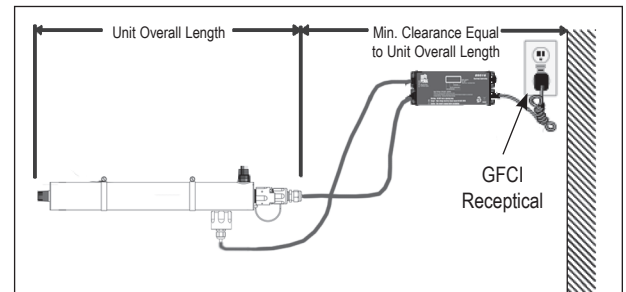

Figure 1B
2. Select a suitable location for the disinfection system and its related components. As it is recommended to install a ground fault protected circuit (GFCI), make sure that this is taken into consideration prior to any installation. The system can either be installed vertically (inlet port at the bottom) (Figure 1A), or horizontally (Figure 1B), however the vertical installation is the most preferred method. When selecting a mounting location, you must also leave enough space to allow for the removal of the UV lamp and/or quartz sleeve (typically leave a space equal to the size of the reactor chamber itself).